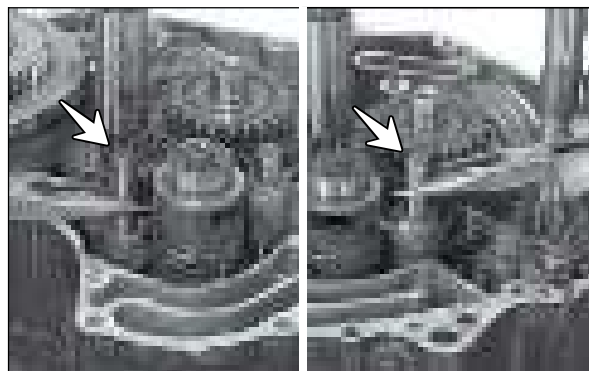

Fig. 3.152
- Pull out both the shaft shift forks from the fork gear shifts. (Fig. 3.152)